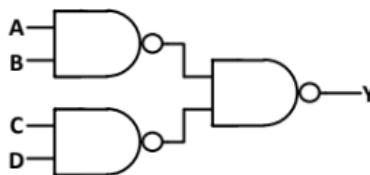

Fig. 3.6
15. Find the logic function implemented by the circuit given below in Fig. 3.6